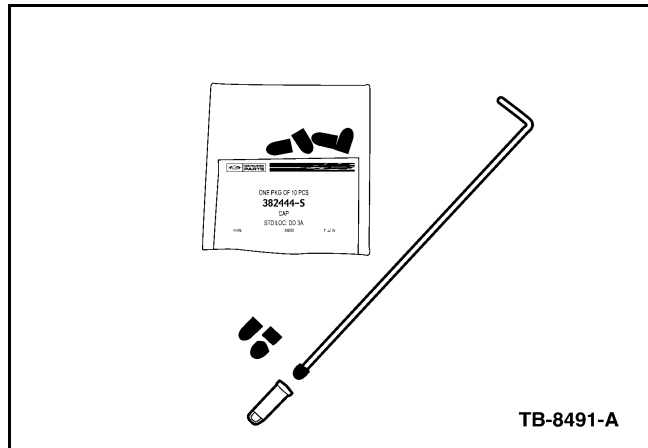

Figure 4 - Article 06-15-2
2. Install the modified cap with a long drill bit or suitable wire (Figure 4), sized for the internal diameter of the cap. The rubber cap should bottom-out on the electrode strap of the ground electrode shield once installed.